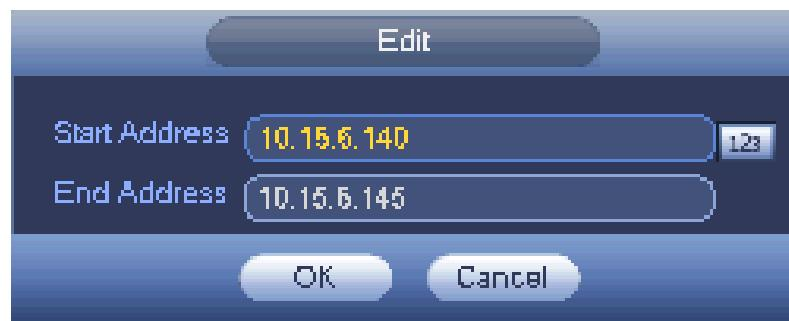

Figure 4-173
- Edit: Click it to edit start address and end address. See Figure 4-173. System can check the IP address validity after the edit operation and implement IPv6 optimization.